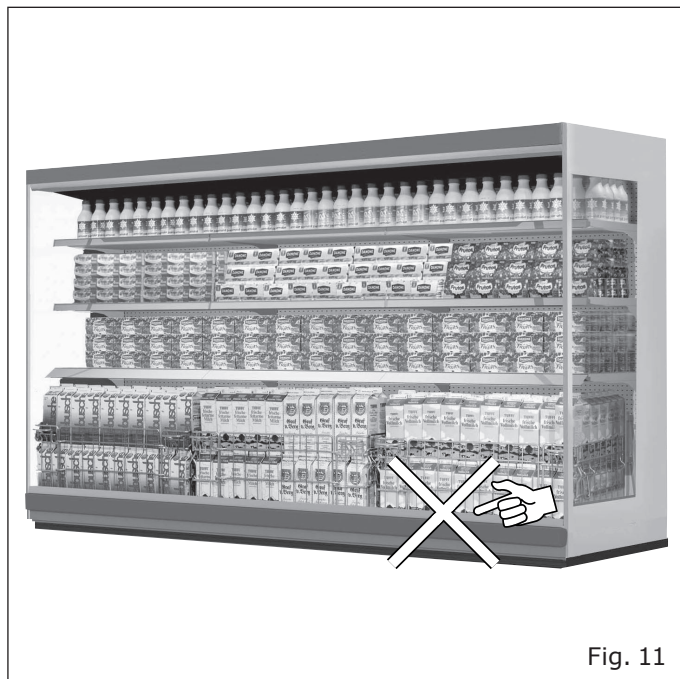

Fig. 11
- The goods do not obstruct the correct flow of refrigerated air ("Fig. 11")